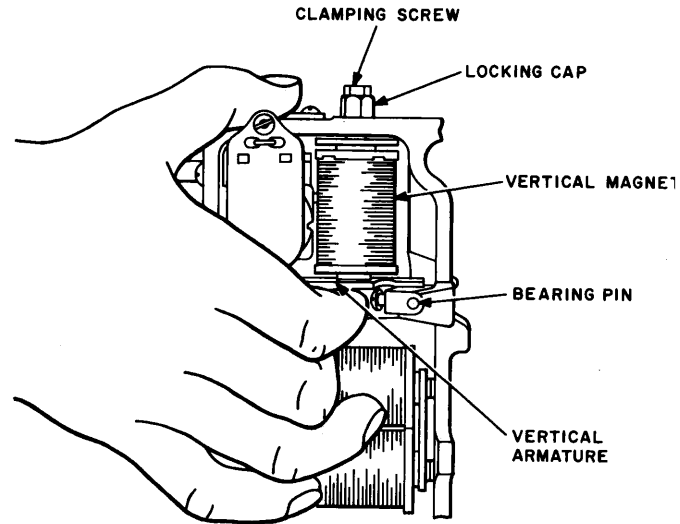

Fig. 16—Method of Supporting Vertical Armature While Replacing Bearing Pin
(1) To replace the vertical armature bearing pin clamp and bearing pin, disengage the vertical armature spring from the "T" head of the adjusting screw and swing the spring to the right until it clears the head of the screw. Loosen the bearing pin clamp screw with the 4-inch E screwdriver or with the 556A wrench. If only the bearing pin clamp is to be replaced, tap the vertical armature bearing pin from left to right with the 1/16-inch pin punch and, where necessary, with the 4-ounce riveting hammer until the pin disengages the bearing pin clamp; then replace the clamp. If the bearing pin is to be replaced, tap it until it can be withdrawn from the right-hand side of the switch by means of the fingers or with a pair of 485A pliers.
(2) Insert the new bearing pin from the left-hand side of the switch, guiding the vertical armature with the right hand as shown in Fig. 16 so that the pin engages the hole in the armature. After the pin has engaged the hole in the right-hand side of the armature, place the bearing pin clamp in position and adjust the armature and the clamp so that the pin enters the hole in the clamp. Tap with the hammer. When the pin is in position, tighten the bearing pin clamp screw and replace the armature spring on the "T" head of the armature spring adjusting screw.